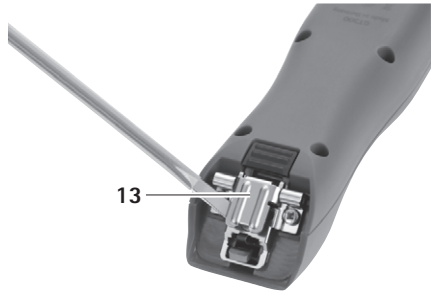

Fig. 1
- If the knife hinge is closed: Open knife hinge **13** with a screwdriver, see Fig. 1.